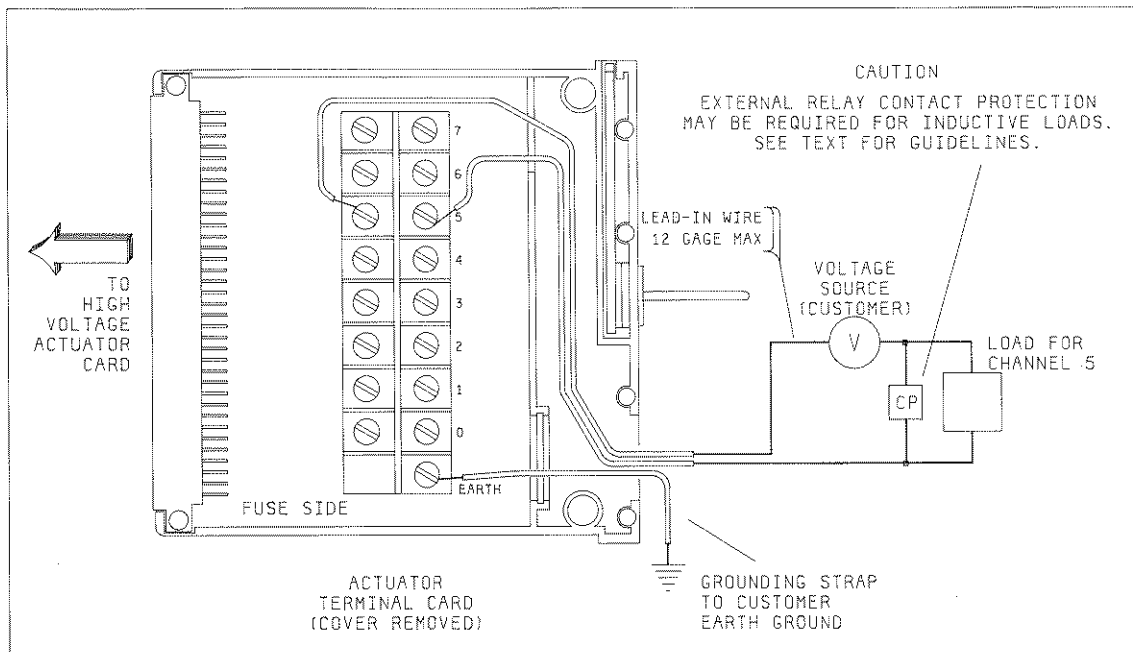

Figure 138. Option 115 - Connecting Loads to the Assembly
7. Disconnect all voltage sources from the lead-in wires. Then, connect leads to desired terminal card channels and connect the ground strap from the CONNECT TO EARTH terminal to the customer ground as shown in Figure 138.